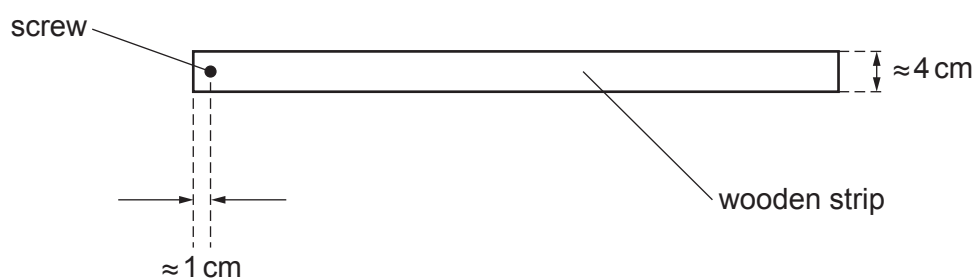

Fig. 1.4 (not to scale)
- 3 The screw should be fixed centrally in the wooden strip approximately 1 cm from one end, as shown in Fig. 1.4.